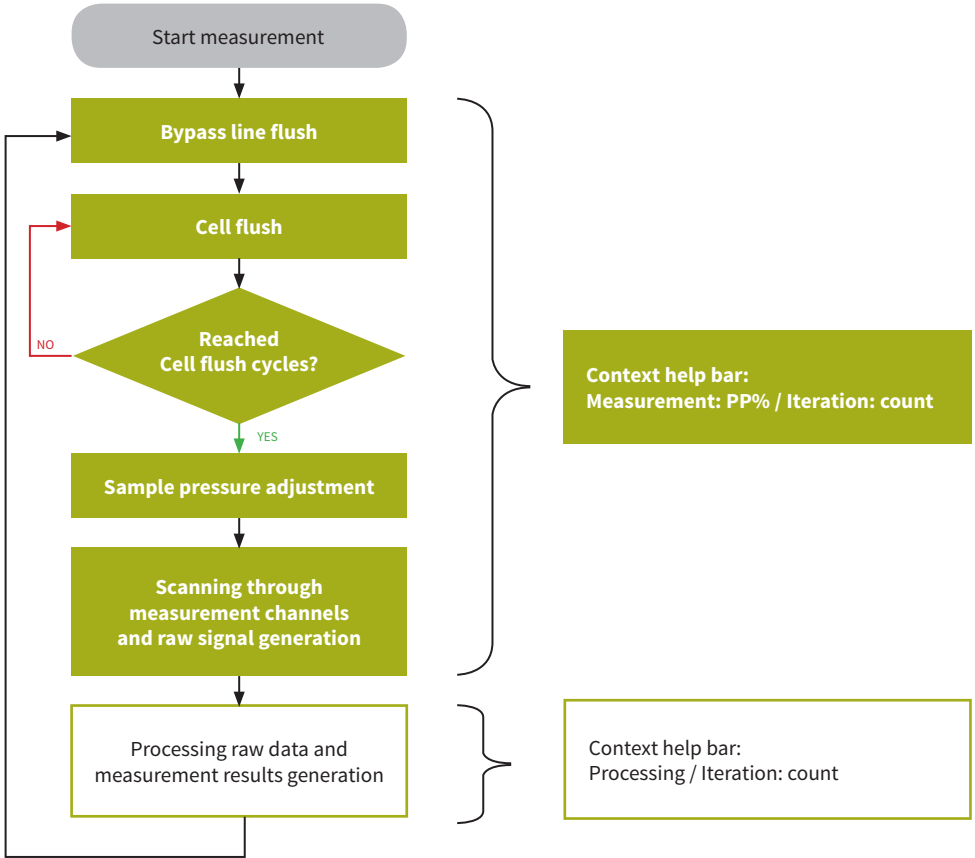

Figure 19. Process behind one single measurement iteration in GASERA ONE. Right side describes information about measurement iteration process progress.
**Measurement iteration** is a process of creating single measurement results. Measurement results can be provided every time a single measurement iteration is completed. Figure 19 presents the process behind single measurement iteration.